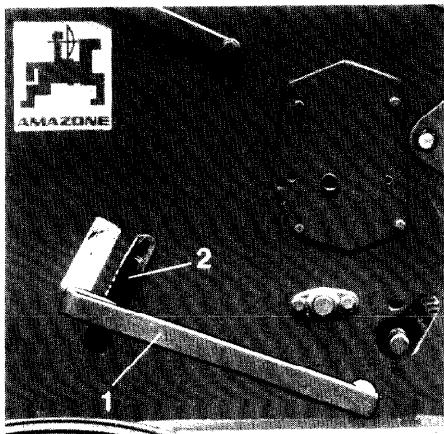

Fig. 1
- Bring bottom flap stetting lever (Fig. 1/1) at the resting plate (Fig. 1/2) into position “1”.